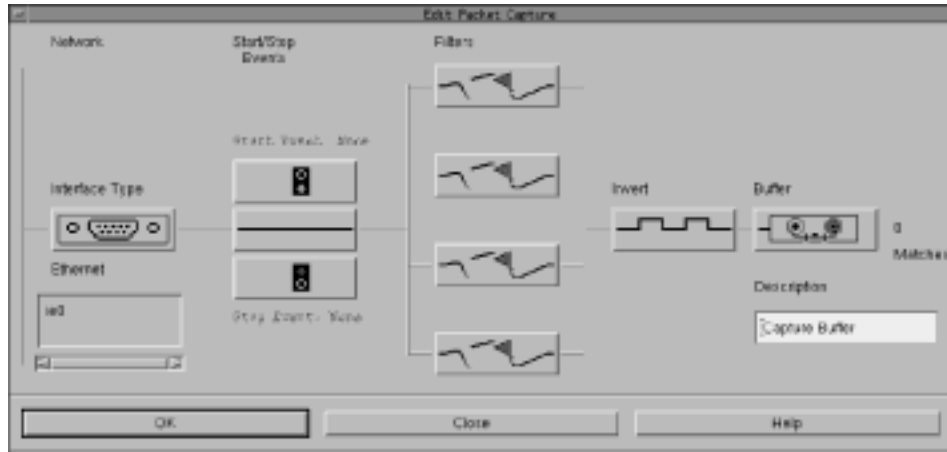

Figure 49. Edit Packet Capture Dialog Box
2. Click **Modify** in the Buffer Details area to open the Edit Packet Capture dialog box, as shown in Figure 49 on page 101.
If you clicked **OK**, the capture buffer will be displayed in the Buffer Details area. Select the capture buffer and click **Modify** in the Buffer Details area to open the Edit Packet Capture dialog box, shown in Figure 49 on page 101.